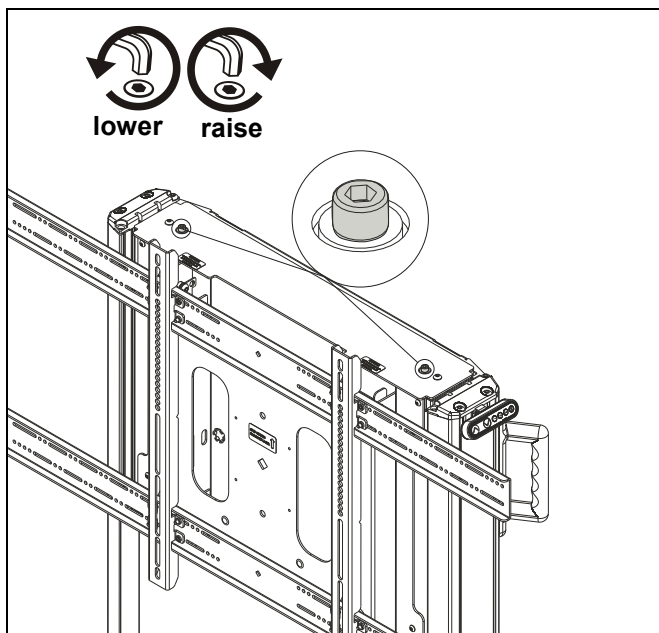

Figure 20
1. Use 3/16" hex key to adjust leveling adjustment screws on top of stand. (See Figure 20)